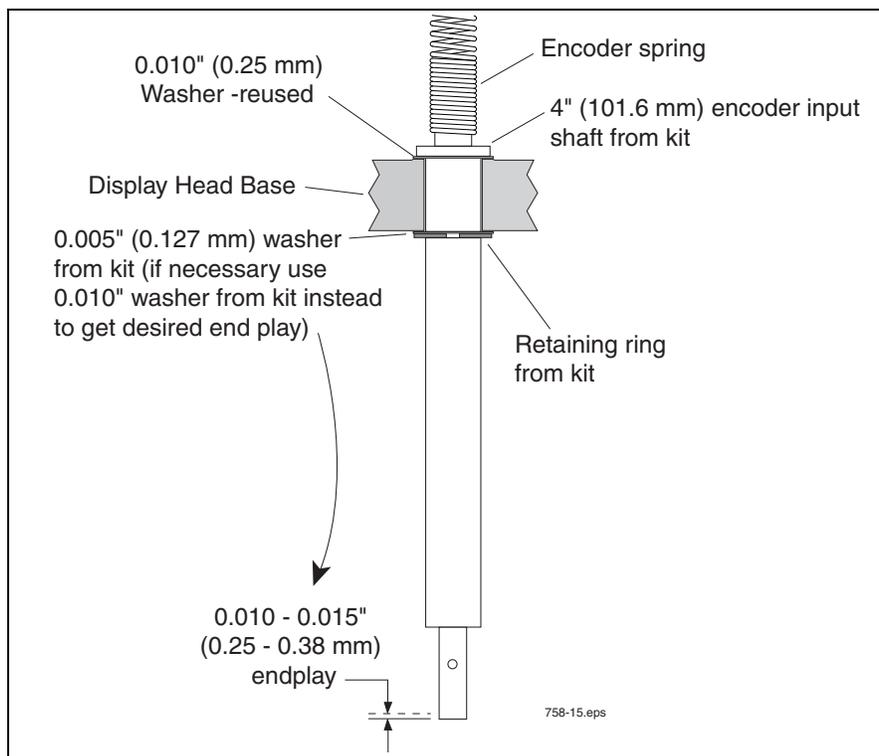

Figure 16. Assembling Neptune Adapter Shaft Group To Display Head
- Assemble the new shaft, the 0.010" washer you removed from the Display Head shaft in the previous step, the 0.005" washer, and the retaining ring in the Display Head base as shown in Figure 16. If the 0.010 - 0.015" end play is exceeded, remove the retaining ring and replace the 0.005" washer with the 0.010" washer.